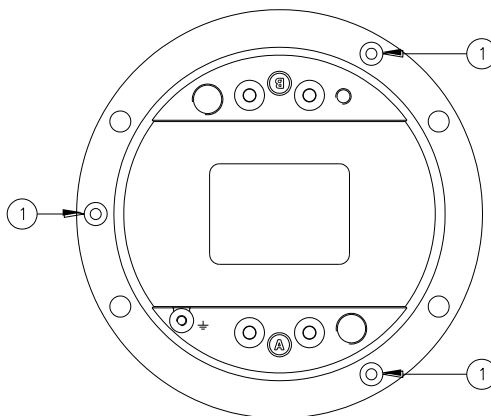

Figure 20 - Lower Cover Fixing Screws
- Open the fixture by unscrewing the three locking screws HSFH M5x10 (Figure 20 - n°1).
- three locking screws HSFH M5x10 (Figure 20 - n°1);
Verify the correct position of O-Ring between dome and lower cover (Figure 22 – n°2);, mount the lower cover on the dome and fasten it by means the three screws HSFH M5x10 (Figure 20 - n°1). One drop of anaerobic adhesive lower type (e.g. LOXEAL 24-18) should be applied to the screws before installation; tightening torque is 2.5 Nm.